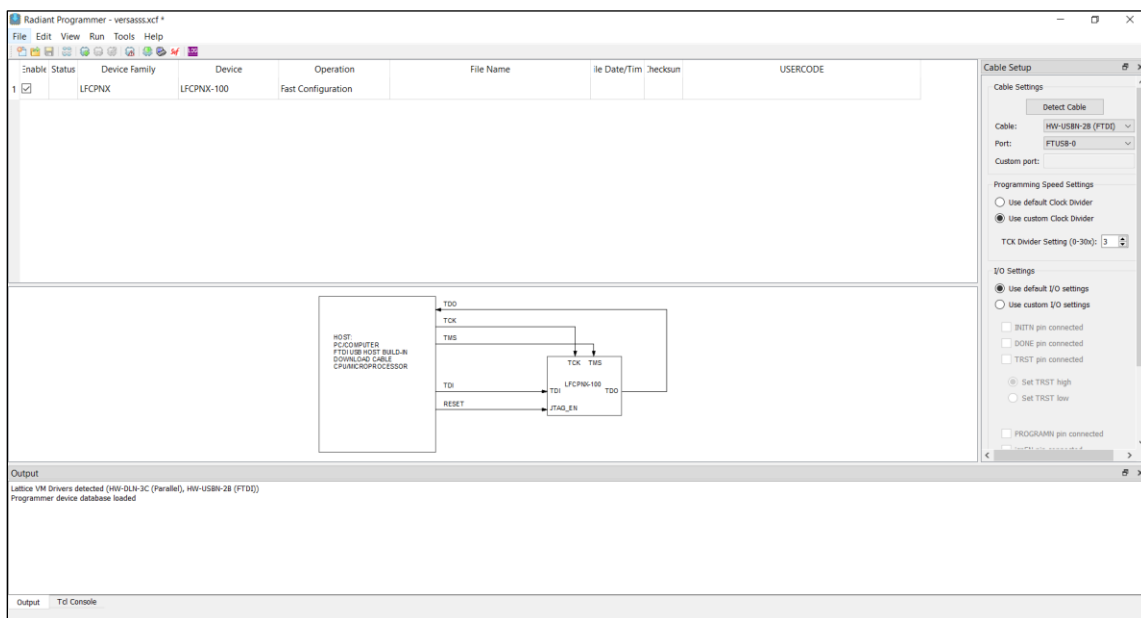

Figure 3.4. Radiant Programmer Opened from Windows Start Menu
- You can see the selected project opened in the Programmer (Figure 3.4).